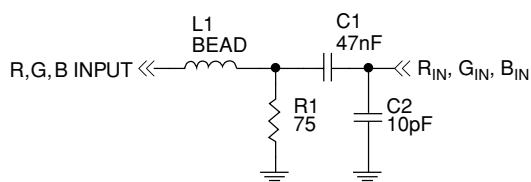

Figure 23. RGB Input Filter Option
5. If necessary, limit bandwidth by adding a ferrite bead in series with each RGB input as shown in Figure 23. A Fair-Rite #2508051217Z0 is recommended. Further bandwidth reduction using a shunt  $10\text{pF}$  capacitor may reduce snow (intensity noise) caused by HF noise riding on the RGB input. Mismatches, reflections and noise may cause ringing or distortion of the incoming video signals.